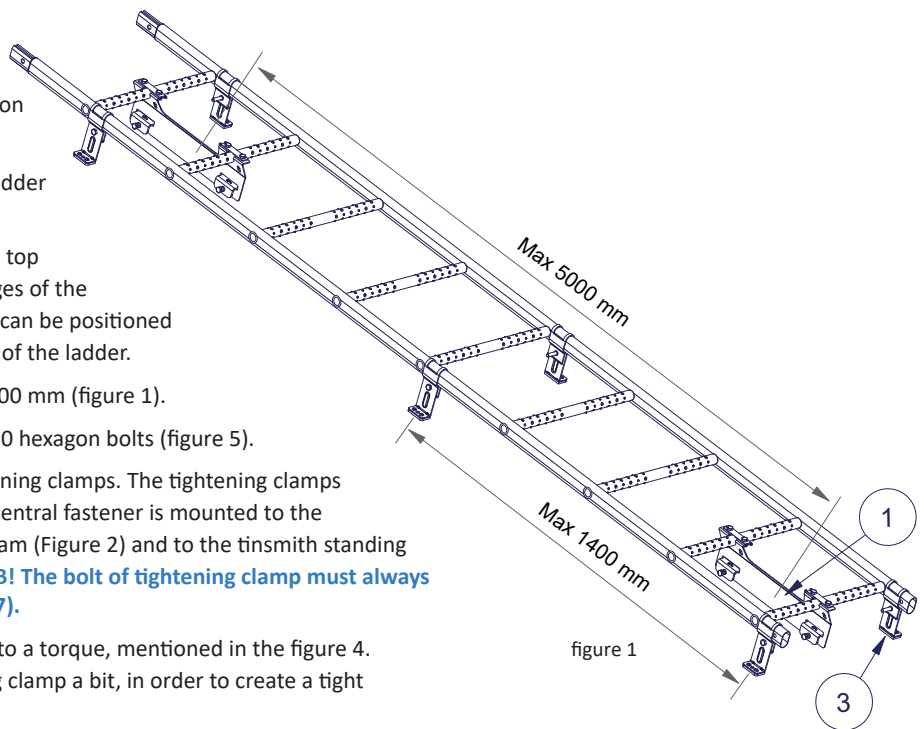

figure 1
- Install the roof ladder fasteners in their places on the ladder frame, with intervals of max. 1400 mm (figure 1).
- The maximum distance between central fasteners is 5000 mm (figure 1).